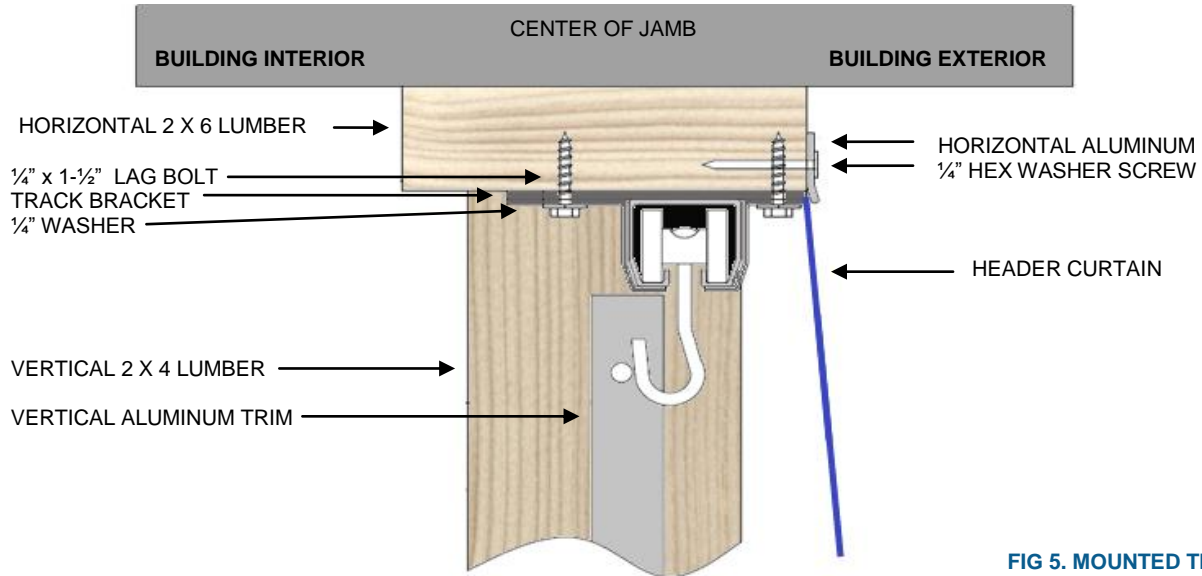

FIG 5. MOUNTED TRACK
- Head Curtain (see FIG. 5)
1. On the outside-facing edge of the Horizontal 2 x 6 Lumber and starting at the *Fixed Side*, use the remaining ¼" **Hex-Washer Self-Drilling Screws** to attach the **Header Curtain** under 1" **Horizontal Aluminum Trim** (see FIG 5).